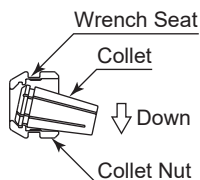
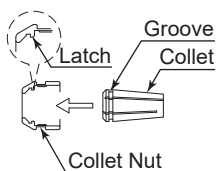
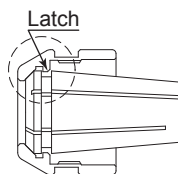

Fig. 9
Fig. 10
Fig. 11
- (2) The collet and collet nut are secured by a groove in the collet and a flange in the collet nut. To remove the collet hold the collet nut in one hand and push diagonally down on the collet. The collet should be released (Fig. 9).
- (3) To install the collet, hold the collet at a slight angle, and insert it into the collet nut (Fig. 10). Press the collet in the collet nut by positioning the collet in the collet nut and pressing down on flat surface (Fig. 9). Be sure to fully engage the latch inside the collet nut into the groove on the collet outer circumference area (Fig. 11).